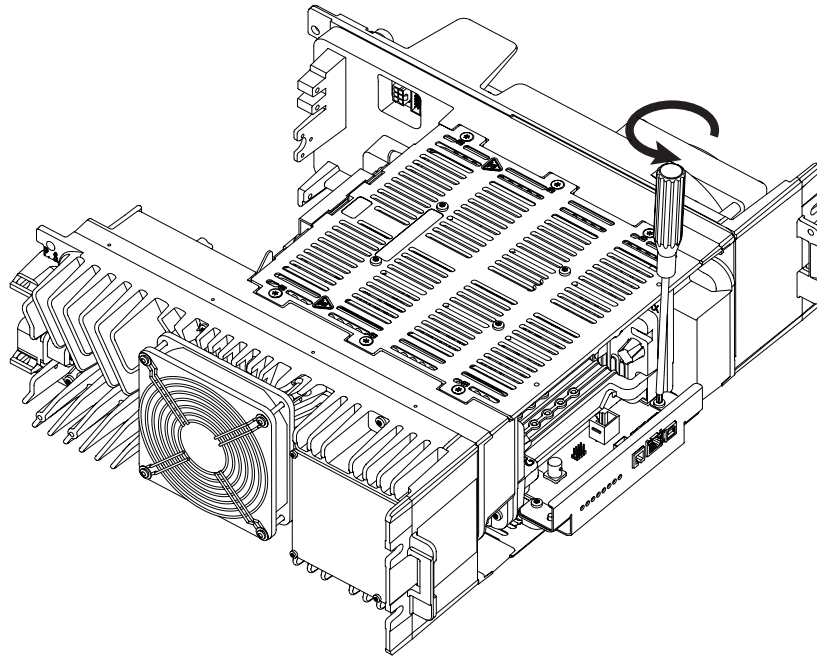

Figure 10-3 Removing two screws securing the Transceiver Assembly
3. Remove the two screws securing the Transceiver (SCM, Exciter, and Receiver modules) to the bottom plate. Pull forward on the cast knobs, carefully slide the assembly out of the base station/repeater (Refer to Figure 10-3) and place it aside.
7. Secure the Transceiver Assembly to the bottom plate by fastening the screws in Step 3 (Refer to Figure 10-3).